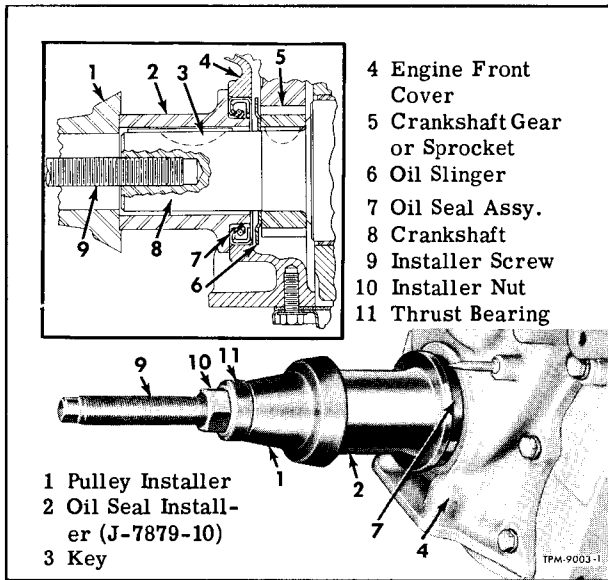

Figure 16—Front Cover Oil Seal Installation (with Cover Installed on Engine)
2. Locate new seal assembly at bore in front cover with seal lip pointing inward, then assemble special tool components as shown in figure 16.